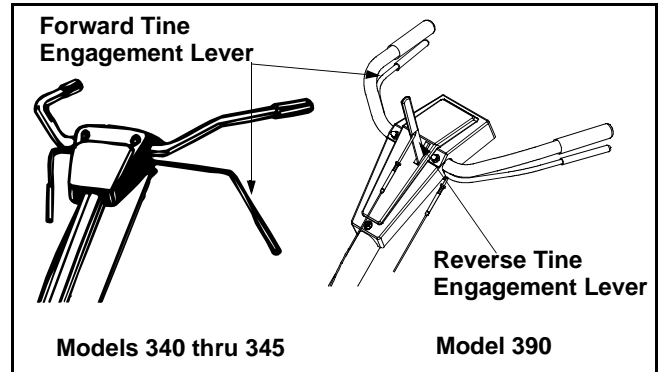

Figure 6
- With tine engagement handle in neutral (released) as shown in Figure 6, pull the starter rope several times. **The tines should not turn.** If they turn forward, loosen the hex nut on the forward cable (underneath the handle assembly). If they turn
toward the rear (model 390 only), loosen the hex nut on the reverse cable (above the handle assembly). Unthread the rod from the cable 2 or 3 turns. Retighten the hex nut, and check again for correct adjustment. See Figure 6.
- Make certain all controls are in the neutral position (released). See Figure 6.